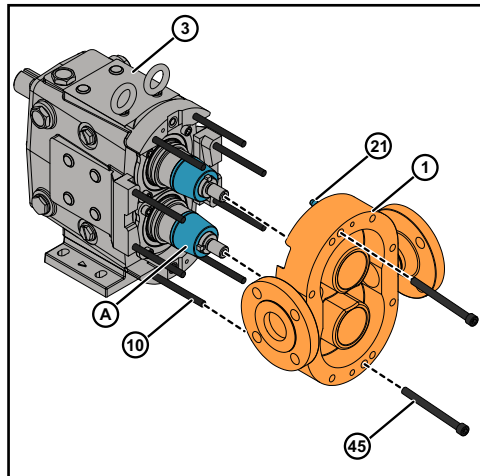

Figure 93 - Install pump body
1. Install the installation guide (A) on both shafts to avoid damaging the lip seals as the pump body is drawn over the shafts. Ensure the front face of installation guide is attached to the back face of sleeve, as shown in Figure 93. See the installation guide part numbers Table on page 125.
2. Match the large and small dowel pin (21 & 23) sizes on the pump body (1) with the dowel pin holes in the pump gear case (3).
3. Install the pump body (1) to the gear case assembly (3), aligning the pump body with the body studs (10) and gradually tighten the two cap screw(45).